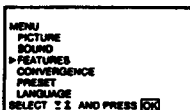

Fig. 24
- 2 Select "FEATURES" with Δ+ or ∇- and press OK. The FEATURES menu appears. (See Fig. 24.)